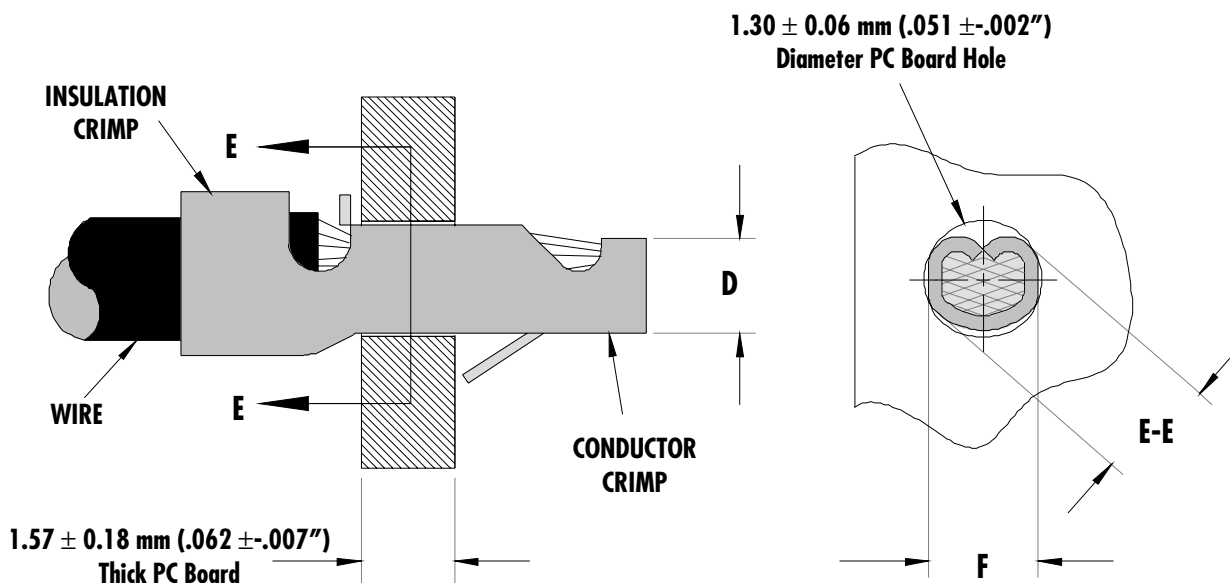

Figure 1
After crimping, the conductor profiles should measure the following (See Figure 1).
- The Conductor crimp (D dimension on Figure 1) should be set at the maximum height to contain all wire strands, meet minimum pull, and fit into the PCB Hole. The insulation and barrel crimps are adjustable, by the cams (rings) on top of the Mini-Mac ram. The conductor crimp height is not adjustable. Shimming may be required of the conductor punch to optimize this for different wire types.